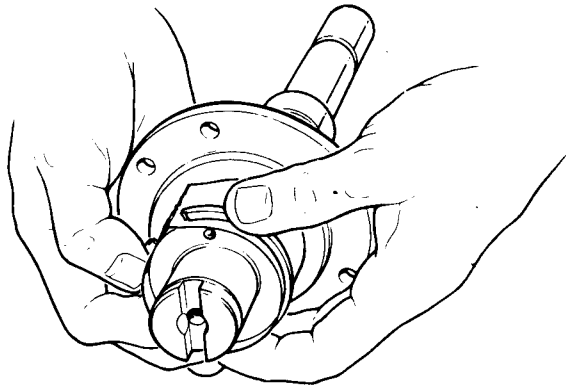

Fig. 13. Piston Ring Fitting Procedure
6. Where a loading tool is not available use a thin steelstrip, long enough to lay along the clutch gear above the grooves. Expand each ring just sufficiently to allow them to be placed in approximate position over the strip. Gently remove the strip and locate the rings in their respective grooves (see Fig. 13).